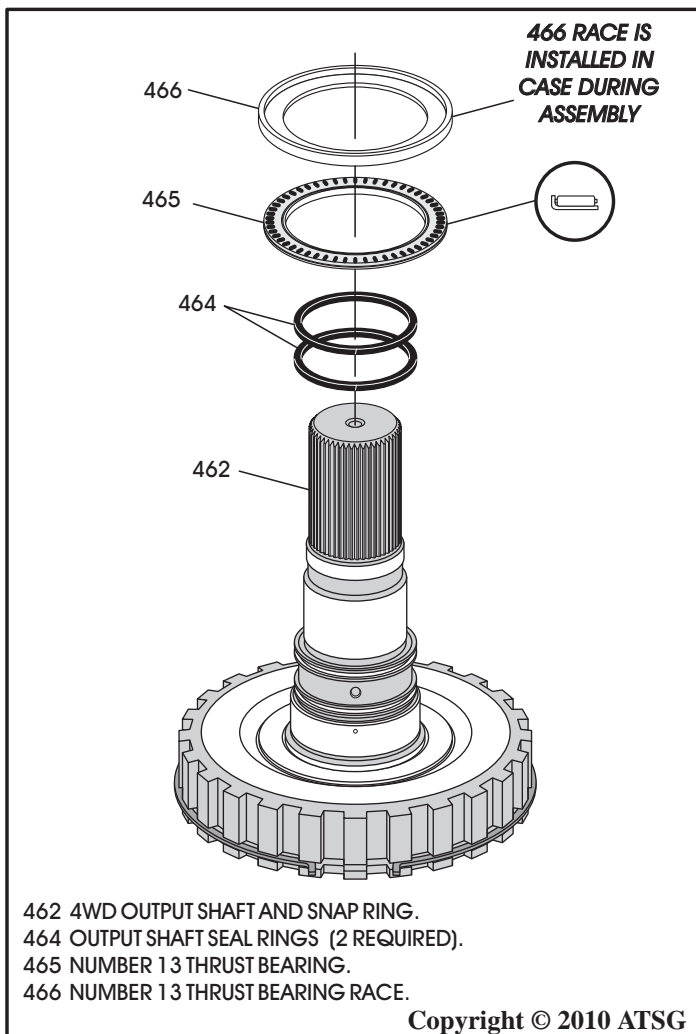

Figure 101
5. Install 2 new sealing rings on the output shaft, as shown in Figure 101.
6. Install the number 13 thrust bearing on output shaft, as shown in Figure 101, retain with small amount of Trans-Jel®.